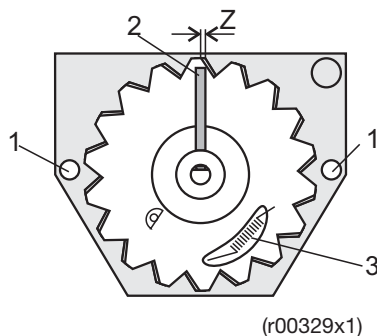

Figure 12: Position sensor
- set the stop pin to the center position, as seen in Figure 12
- connect the plug (5) to the PCB